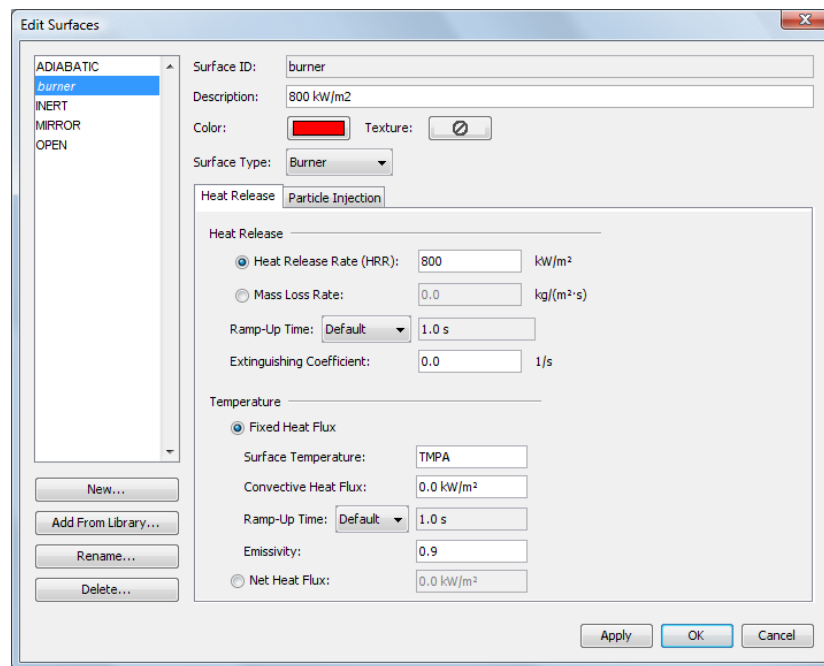

Figure 5.3. Defining parameters for the burner surface
1. In the **Description** box, type 800 kW/m² burner, Figure 5.3